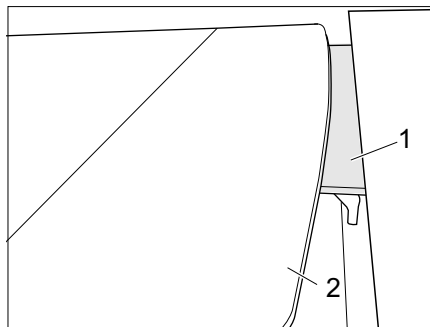
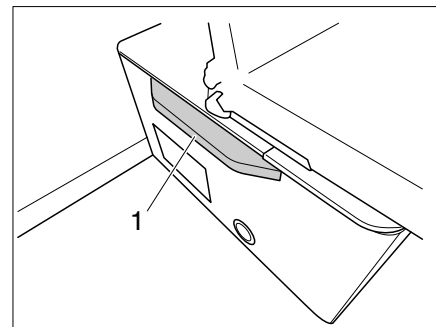

Fig. 119 Lowering the table onto the support edge
Fig. 120 Lowering the table onto the extender
- Swivel the table-top (Fig. 119,2) down onto the support edge (Fig. 119,1) or set down on the extender (Fig. 120,1) intended for this purpose.